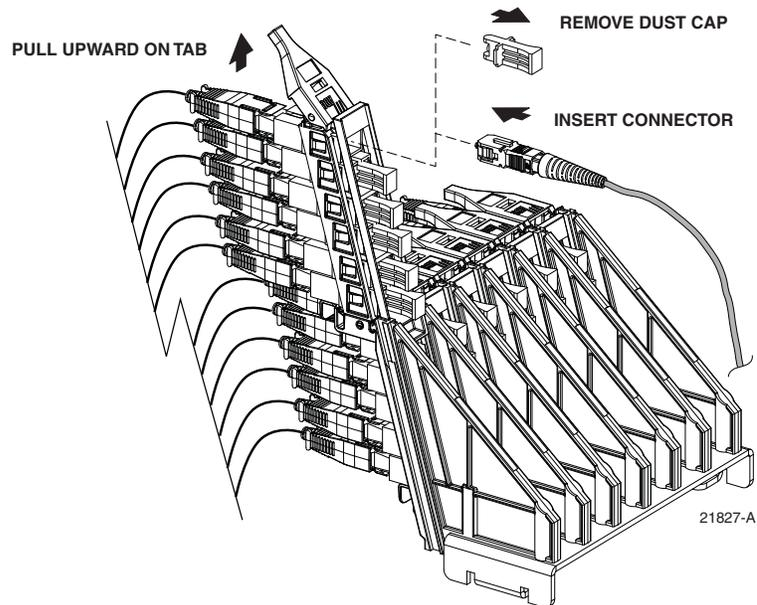

Figure 35. Adapter Pack Raised to Access Position
2. Pull upward on the small tab on top of the adapter pack and lift the adapter pack to the position shown in Figure 35.